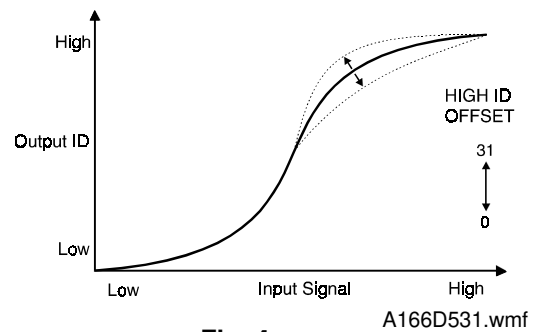

Fig. 4
1. The ID value for this image is broken down into two parts (figure 4): a set of values equal to the lowest color ID value, and the remainders of the two higher values.
The High ID mode should be used to adjust the image density between Level 6 and Level 9 of the color gradation scale on the C-4 test chart (figure 4).